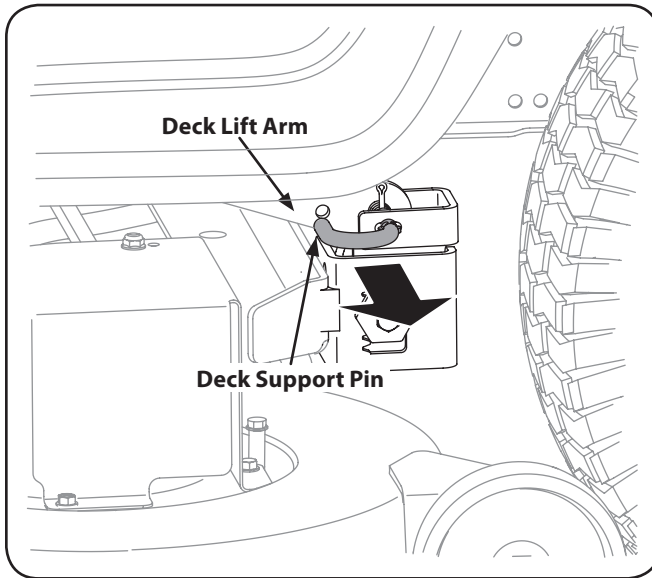

Figure 7-3
6. Pull the deck support pin outward to release the deck from the deck lift arm. See Fig. 7-3.